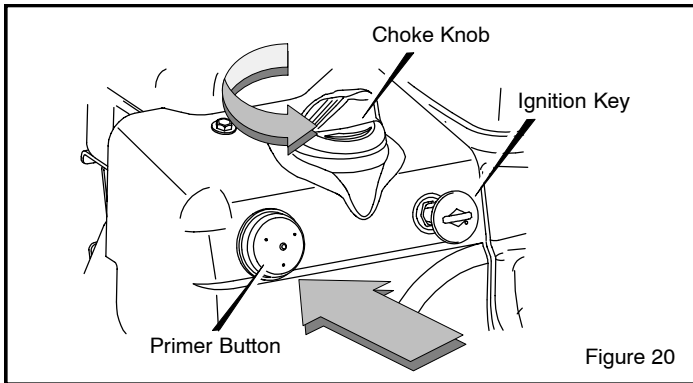

Figure 20
3. Insert key into ignition slot. Make sure it snaps into place (Figure 20). Do not turn key.